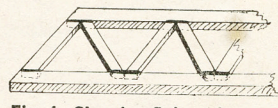

Fig. 4—Showing fixing of cross pieces
This part, shown at Fig. 4 (G) is cut to the size given from $\frac{1}{4}$ in. wood. Cut it as a plain rectangle first. Then cut a second bit of the wood, $\frac{1}{4}$ in. wide and $1\frac{1}{2}$ in. long. Get this an easy fit in the film groove, then glue it behind the gate in the centre, shown by the dotted lines. Glasspaper the surface of this to reduce its thickness just enough to allow the film to pass between it and the panel. Test this with a piece of the actual film.